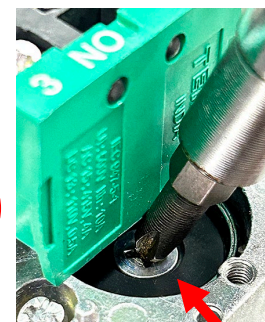

Figure 31
57. Using a Phillips screwdriver ensure the screw on the rear of the green button is securely tightened (see Figure 31).